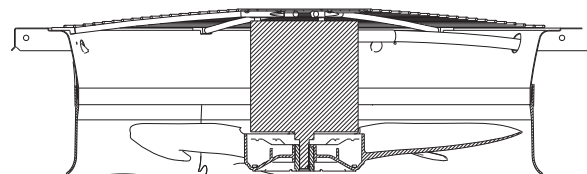

Fig. 34 — Condenser Fan Adjustment
2. Remove condenser-fan assembly (grille, motor, and fan). (See Fig. 34.)